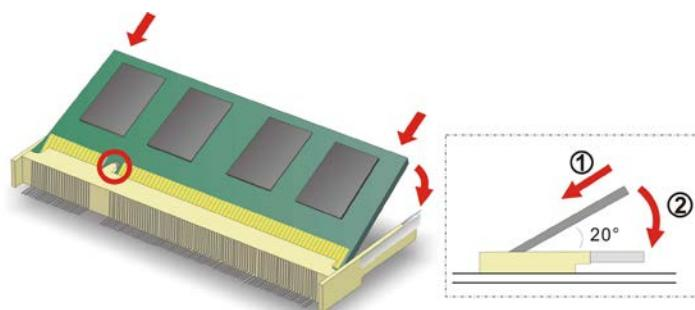

Figure 4-2: SO-DIMM Installation
Step 4: Align the notch on the memory with the notch on the memory socket. Insert the SO-DIMM in at a 20° angle. (**Figure 4-2**).
Step 5: Push the SO-DIMM downwards until the arms of the SO-DIMM socket clip into place and secure the SO-DIMM in the socket (**Figure 4-2**).